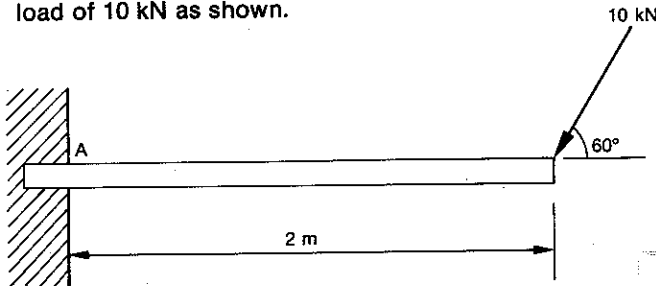

Fig. 5.8
- 5.4 The beam in Figure 5.8 is built into the wall and carries a load of 10 kN as shown.